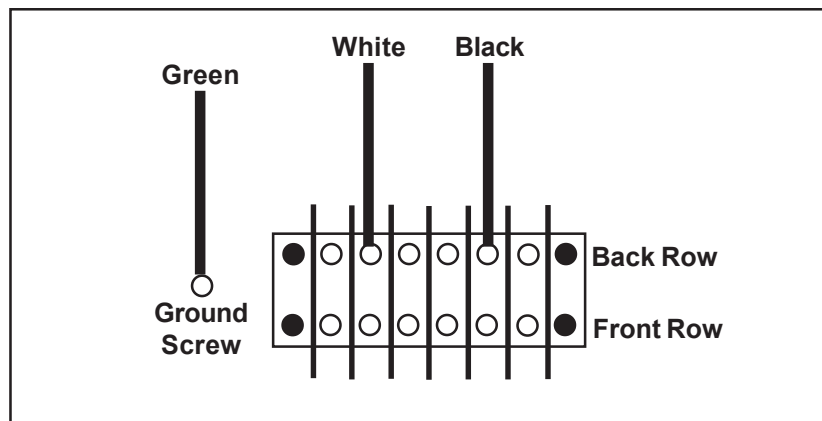

Figure 59. Auxiliary Power Cable Connections on Terminal Strip
4. Connect the three wires to the terminal strip (Figure 59).